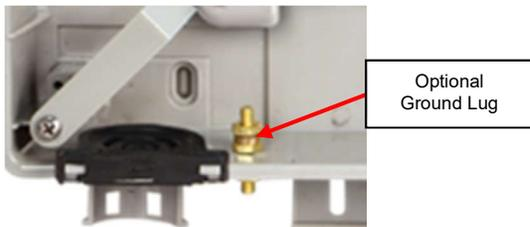

Figure 4
- b. If desired, and unit includes optional Ground Stud, ground cable armor or tone-able member adhering to industry accepted practices (figure 4).